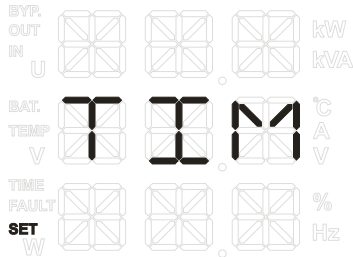

Figure4-9 Time setting
Time setting page: in the page, **TIM** flickers. If you confirm to select the setting, press  (ON) button more than 1s, it will enter year/month/day setting page to set. If you do not confirm to select the setting, 20s later, it will exit the setting page automatically. Corresponding LCD display is as shown in Figure4-9.